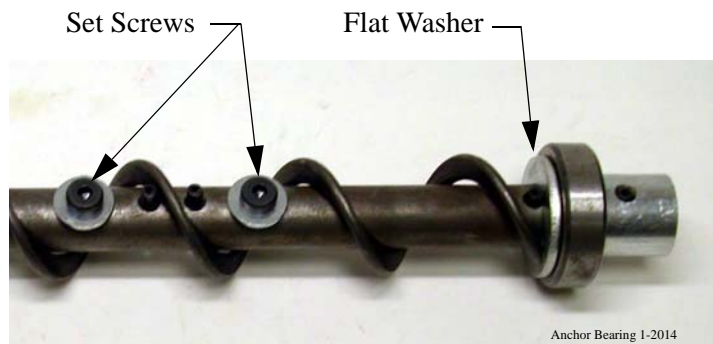

Figure 67. Auger and Anchor Bearing Connection
1. Insert the Anchor Assembly into the auger, guide the tip of the auger between the two roll pins in the center of the anchor. Continue to guide the auger until the tip of the auger hits the flat washer. Tighten the setscrews in the center of the anchor until they touch **Figure 67.**